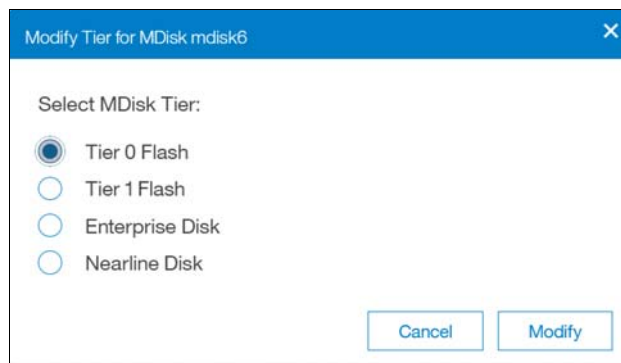

Figure 11-5 Choosing a storage tier
9. Ensure that the correct MDisk tier is chosen, as shown in Figure 11-5. Click **Modify** to change the tier setting.